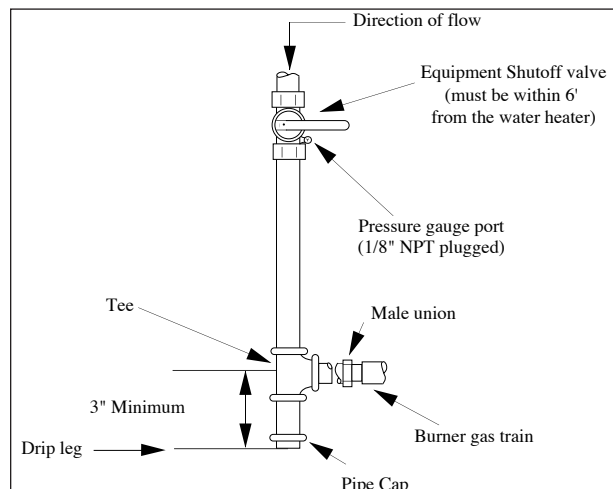

Fig. 27: Recommended Gas Supply Piping
1. Remove the burner jacket hood. Refer to Figure 27 to pipe gas supply to the burner.
- b. Install a manual shutoff valve in the gas supply piping as shown in Figure 27. For installations in Canada, the installer must tag and identify the main shutoff valve.
- c. Install a drip leg on the gas supply line prior to connecting to the PERFORMANCE gas train as shown in Figure 27.